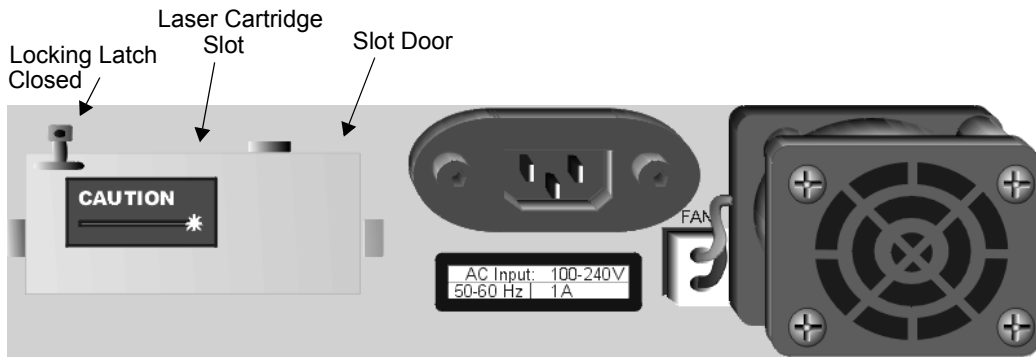

Figure B-1. Laser Cartridge Slot on the Encoder Rear Panel
1. Locate the laser cartridge slot on the rear of the encoder, as shown in Figure B-1.